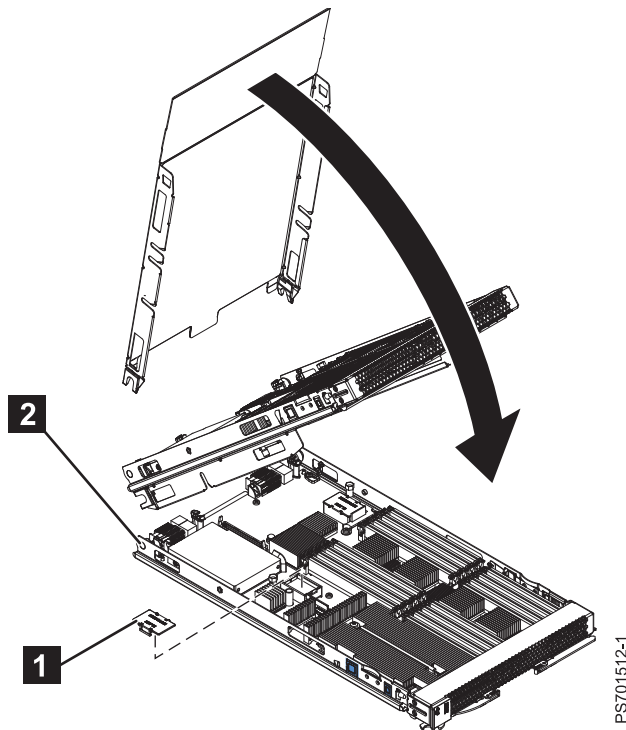

Figure 11. Installing the expansion unit
5. Remove the expansion connector cover, as shown by **1** in Figure 11 on page 25.